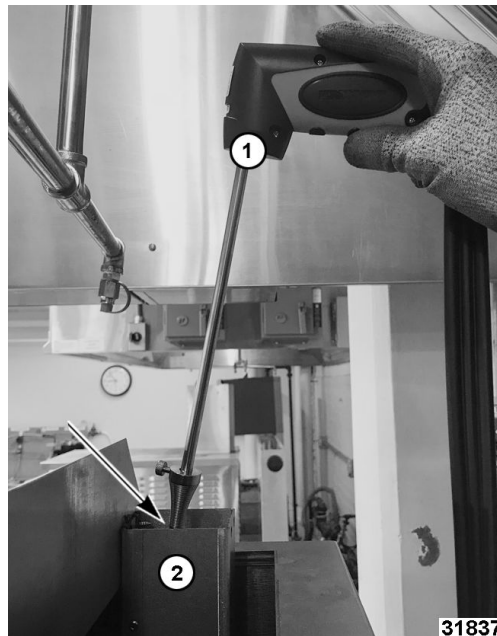

Fig. 19
A. Insert analyzer (1, Fig. 19 ) into exhaust flue (2, Fig. 19) as shown.